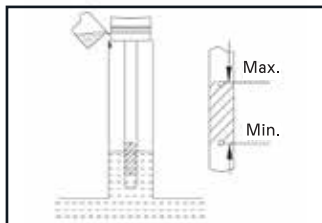

Fig. 6
- Remove the dipstick and check the oil level: the oil level must be between the Min. and Max. marks on the dipstick. If near the lower level, fill to upper level with the recommended oil (SAE30 or equivalent). Do not overfill. Wipe away any spilled oil align, the ribs of the cap with the groove of the filler neck, then insert to secure it (see Fig. 6).